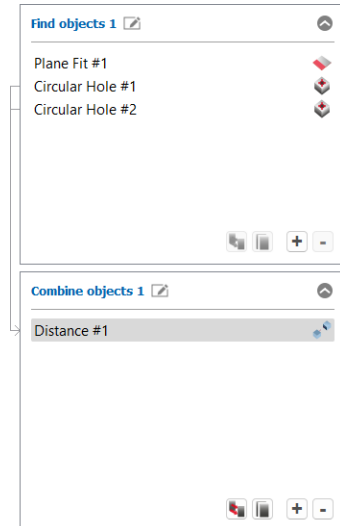

Fig. 3.52: List of active measuring programs ("Evaluation" view)
➡ Click on the button (see Fig. 3.52).
- ➡ Click on the button (see Fig. 3.52).